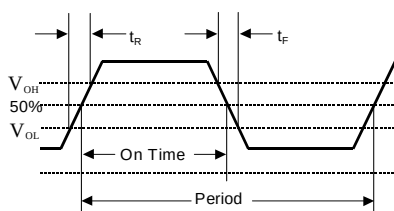
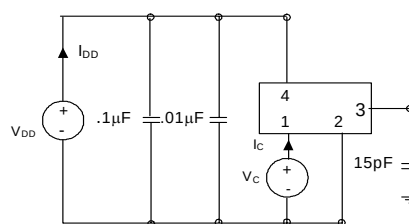

Figure 3. Output Waveform
Figure 4. Typical Output Test Conditions (25±5°C)
2. Figure 3 defines these parameters. Figure 4 illustrates the operating conditions under which these parameters are tested and specified. For $f_o > 90$ MHz, rise and fall time is measured 20 to 80%.